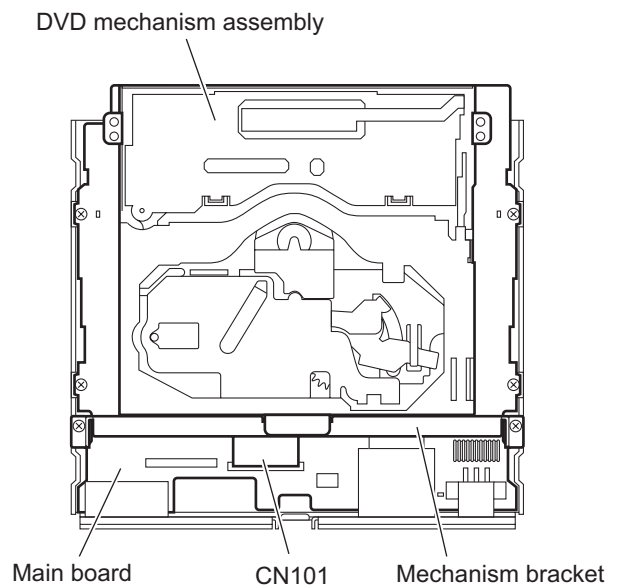

Fig.11
- (3) Release the lock of the connector CN101 on the main board in an upward direction and disconnect the card wire. (See Fig.11.)
When connecting the card wire to the connector CN101, pass it through the lower part of the mechanism bracket. (See Fig.11.)